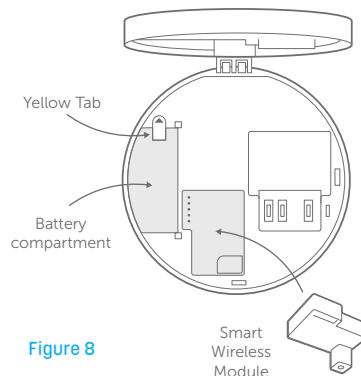

Figure 8
2. This module can be installed into the SMOKE CONNECT MW (ZSC-MW) by first disconnecting the power and opening one of the mains powered alarms and disconnecting the battery, (if yellow tag has already been removed for battery to connect, then remove the battery from alarm), replace the blank housing with the SMOKE CONNECT SS (ZSC-SS) - smart wireless module (refer Figure 8).